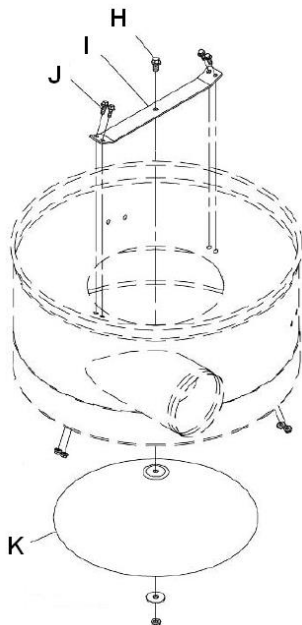

Fig 6
Mount the cone support bracket (I, Fig 6) to the housing with 4 hex cap screws (J) and nuts.